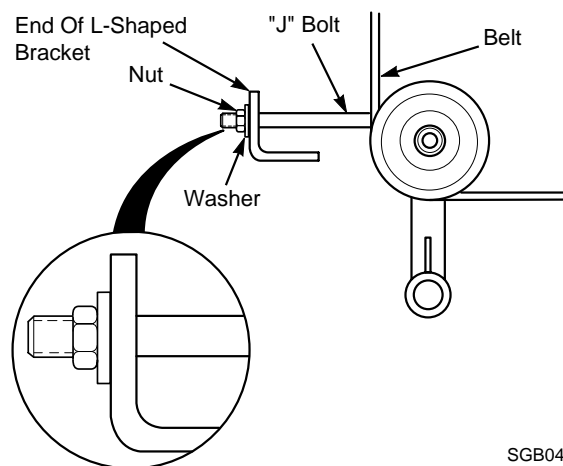

Figure 7. Cutter Deck Drive Belt Tension
2. To adjust cutter deck drive belt: Adjust the nut so that the belt moves 1/2" with 10 pounds of pressure. (See Figure 7).